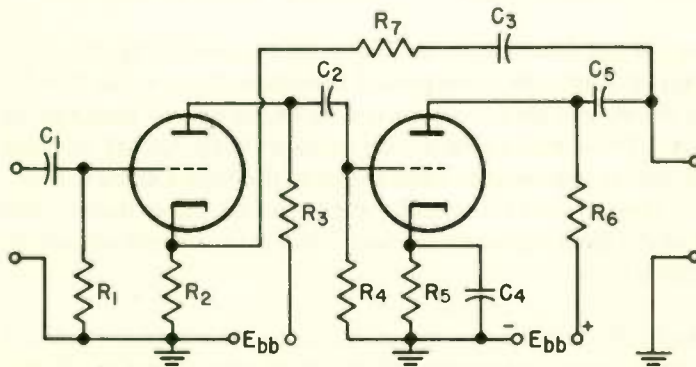

Fig. 38 Voltage feedback by means of cathode degeneration.
The fact that the feedback voltage is generated across the cathode resistor does not necessarily mean that current feedback is used. In Fig. 38 the main feedback current is taken from across the output (rather than in
3. The feedback current shown in Fig. 38(a) (a) (is) (is not) the total output signal current. The feedback current that flows is dependent upon the (b) _____ across the output terminals, and hence the feedback is (c) _____ feedback.